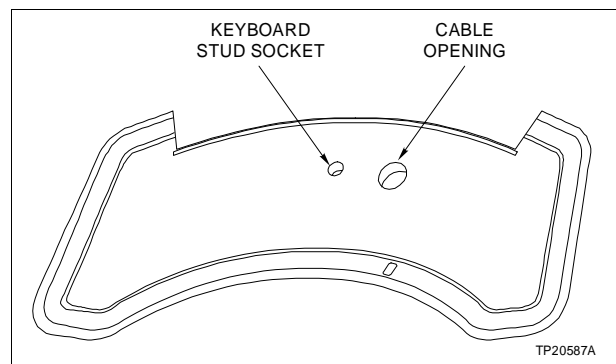

Figure PR27-2. Keyboard Openings (Typical)
- 2. Attach the keyboard cables, which come through the cable opening in the work surface (Fig. PR27-2), to the keyboard.